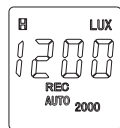
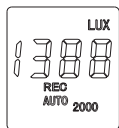

Fig.6
Fig.7
7.Data automatic recording. First press **REC**, then hold the first press and press **MODE** at the same time to start the automatic recording function. Sign "AUTO" will light to set the range automatically. Then the sign "REC" and " " will both flicker in the LCD(Fig.6). It shows in the delay stage of the data recording, the delay time based on the time set before (1~60 seconds optional). When the sign " " stops flickering but the sign "REC" flickering, indicating that the delay time has elapsed (Fig.7). Data automatic recording starting to work based on the pre-set number of times of data recording (1~50 seconds) to complete.